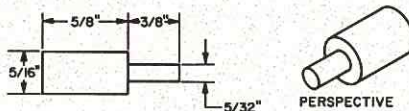

FIGURE 9
- k) Turn a nose-piece (to represent the fixing-bolt). Push into mould front and coat with release agent. See Fig. 9.